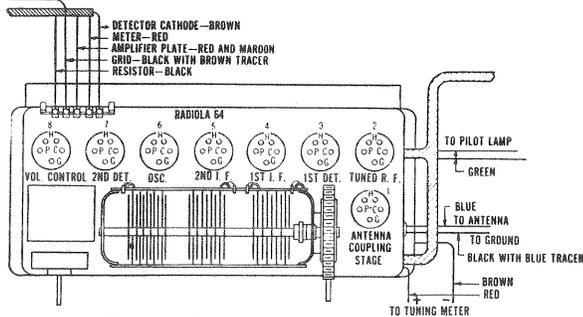

Fig. 1—Top Front View of Radiola
2. **RE-ARRANGING RADIOTRONS**—Socket No. 2, Fig. 1, the tuned radio frequency stage, is the most critical for the selection of Radiotrons, and socket No. 7, the second detector, is next in importance. In socket No. 2 place the Radiotron which gives loudest reproduction on distant stations and which does not go into oscillation throughout the entire tuning range of the instrument. Place in socket No. 7 the Radiotron which will best handle large volume without distortion.
B. **GRID TESTS**—Using the "C" position of the Radio Set Tester, or touching the C and G socket contacts with the test leads of the separate voltmeter, test the "C" voltage in all sockets except the oscillator, No. 6, Fig. 1. In addition to the faults listed below a defective power unit will cause variation from the normal readings.